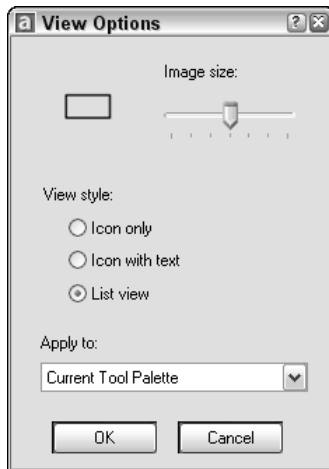

Figure 26-9: The View Options dialog box
- ♦ **View Options:** Opens the View Options dialog box, shown in Figure 26-9. You can change the size and layout of the tool icons on a tool palette. Use the slider to change the size of the icons. Choose from the following display styles: